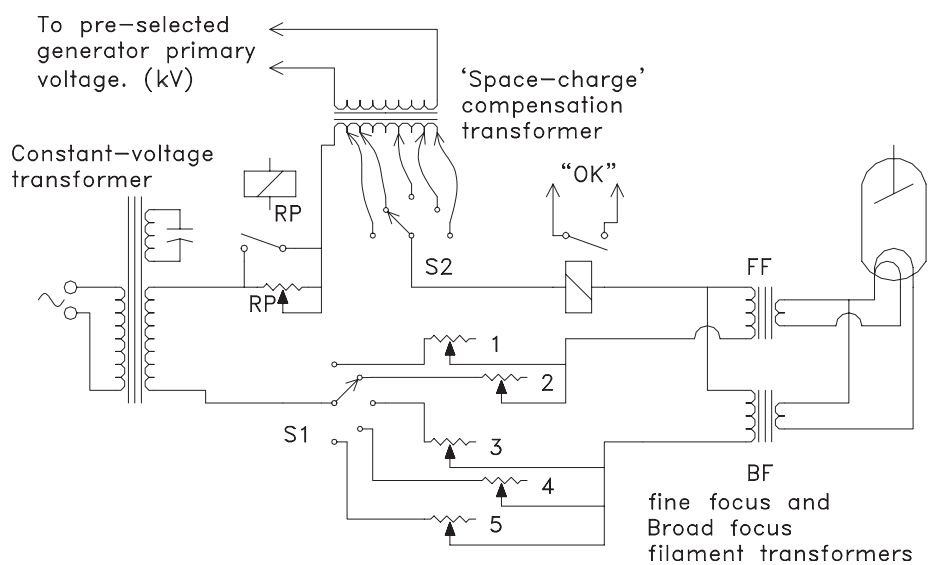

Fig E-28. A basic filament control system
- Provide a level of 'pre heating' so the filament will quickly reach the required temperature during radiographic preparation. The filament may be preset to half the radiographic current in stand-by mode, or in some systems, adjusted to the point where emission would just occur. (~1.0mA) Additional boost may be applied for quick heating during preparation. This is called 'flash' boost. However, some systems only provide pre-heating for a fluoroscopy tube, and rely on longer preparation time for the over-table tube. See Fig E-28.
The circuit in Fig E-28 has the following points of interest.
Filament control systems have had considerable development since the basic method described in Fig E-28. The heavy-duty resistors were replaced with transistors, and the constant-voltage transformer is no longer required.